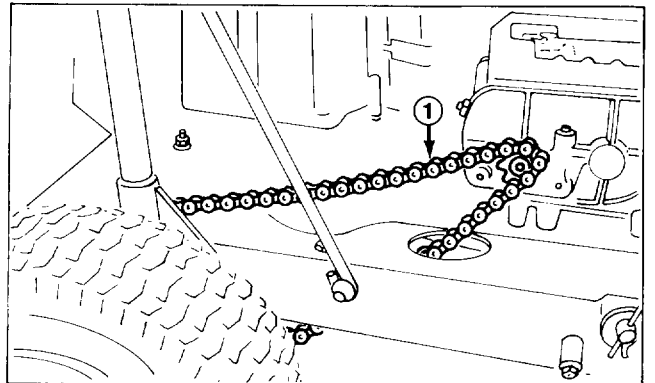
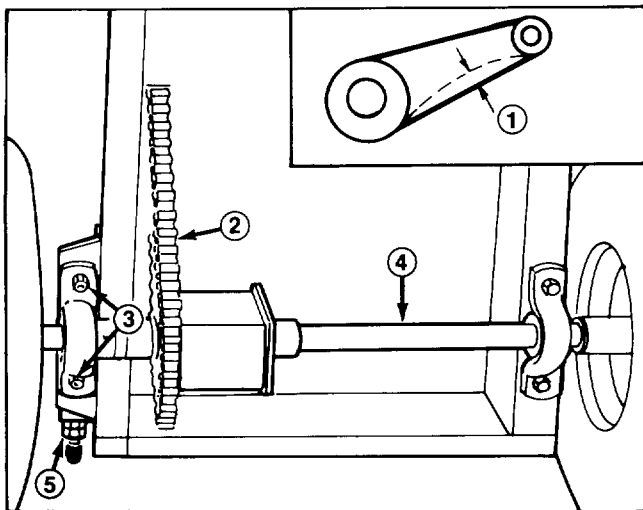

Figure 23
Figure 24
2. Check deflection of drive chain by lifting up and pressing down on chain with moderate pressure at mid span (Fig. 23). There should be 1/8 of an inch total deflection (Fig. 24). If deflection is not as specified, an adjustment is required — steps 3-14.
6. Shift transmission into 1st gear and engage the parking brake. Tip rider onto its rear end so chassis is on top of 2" x 4" blocks (Fig. 24). Wheels must be off the floor so axle can be moved.
7. Loosen four flange nuts securing pillow blocks w/differential axle to the rider frame (Fig. 24).
8. Loosen rear jamnut on chain tensioner (Fig. 24).
11. Since differential axle must be parallel to rear of chassis, measure distance from center of pillow blocks to rear of chassis (Fig. 24). Difference between the two measurements must not exceed 1/8 inch. If difference exceeds 1/8 inch, differential axle is not parallel with chassis: therefore it must be readjusted.